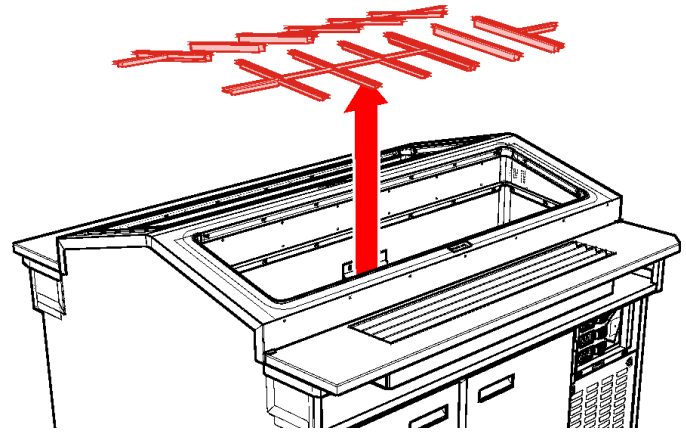

Fig. 25
1. Lift and remove pan dividers from cold rails (Fig. 25).